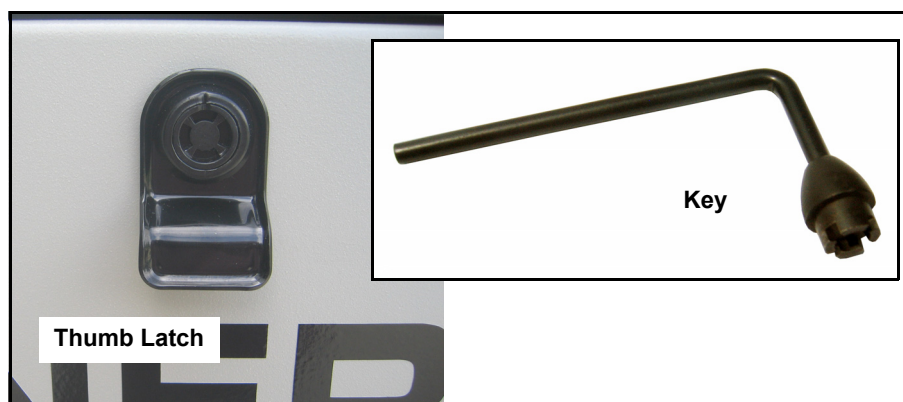

Figure 5-5. Access Panel Key
1. Insert key into latch and rotate counterclockwise 1/2 turn. See Figure 5-5.